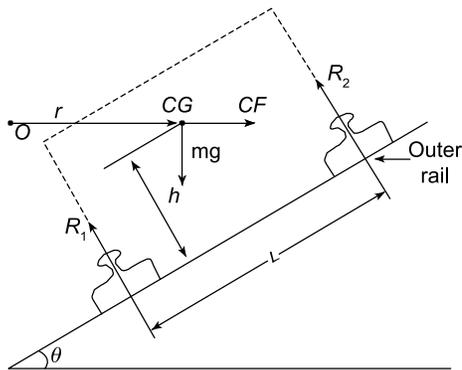

Figure 17.4
**Problem 2.** A railway train is required to travel around a bend of radius  $r$  at a uniform speed of  $v$ . Determine the amount that the ‘outer’ rail is to be elevated to avoid an outward centrifugal thrust in these rails, as shown in Figure 17.4.